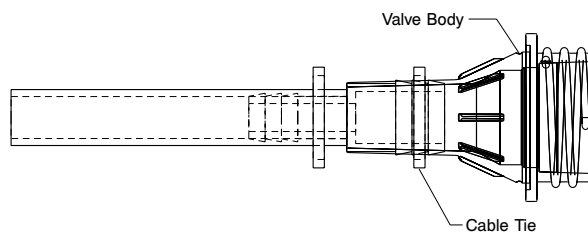

Figure 4
10. Install the reduction coupler fitting by pushing firmly until it is fully seated into the valve body (See Figure 4).
11. Using a zip tie gun, install the supplied cable tie around the valve body, centered on the reduction coupler fitting (See Figure 4).
13. Install the reduction coupler fitting by pushing firmly until it is fully seated into the valve body (See Figure 4 on page 20).
14. Using a zip tie gun, install the supplied cable tie around the valve body, centered on the reduction coupler fitting (See Figure 4 on page 20).